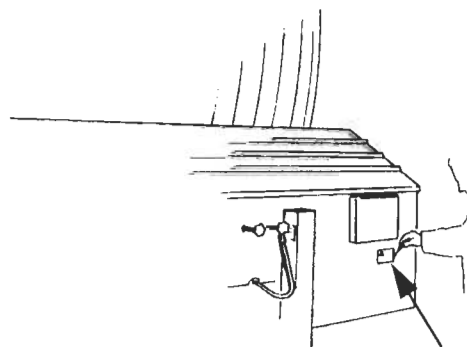

fig. 1
- 3) disconnect the backstop and secure it with the provided chain (fig.1);